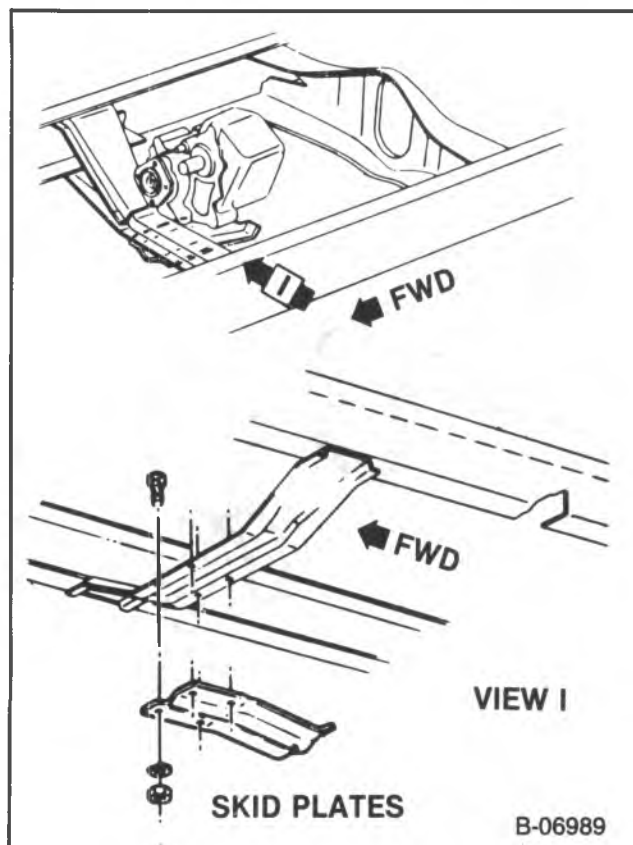

Figure 7 — Skid Plate Installation
8. Skid plate (figure 7).
6. Skid plate (figure 7).